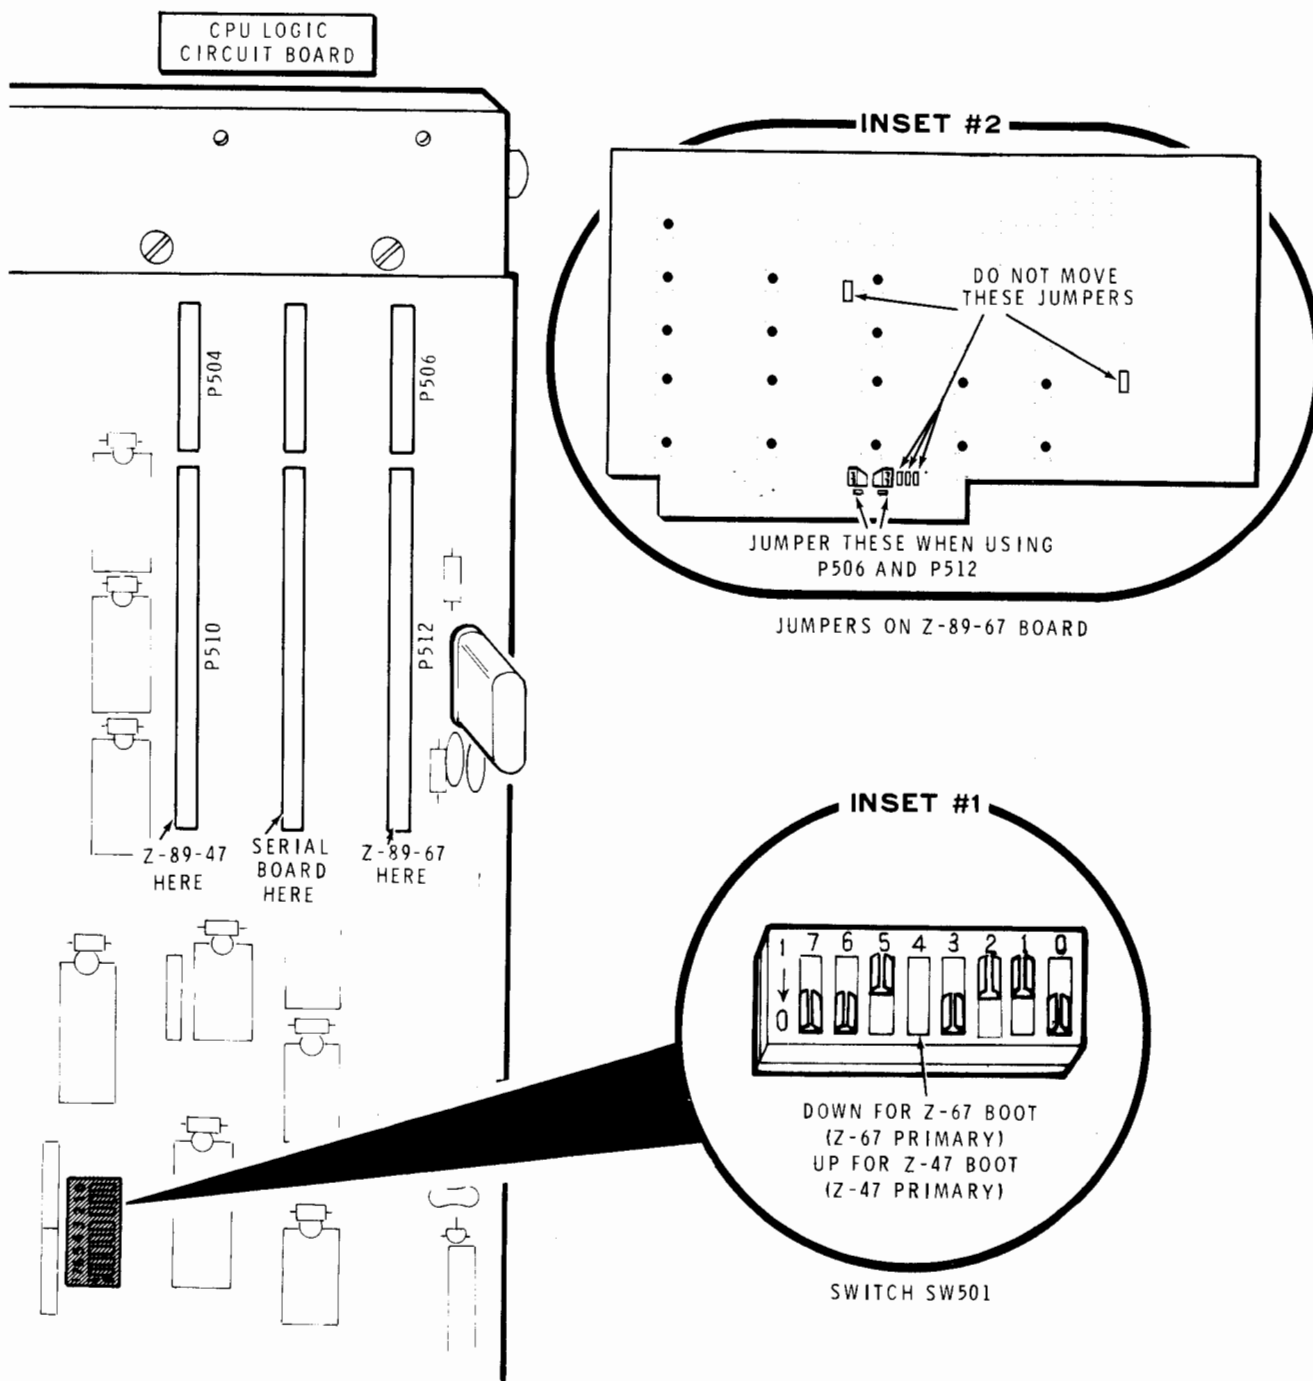

Figure 3-5
3. A **Z-89-47 Interface Board**, you must install your Z-89-67 Interface Board as shown in Figure 3-5 on Page 3-8. Set switch SW501 as shown in inset drawing #1, and the jumpers as shown in inset drawing #2.